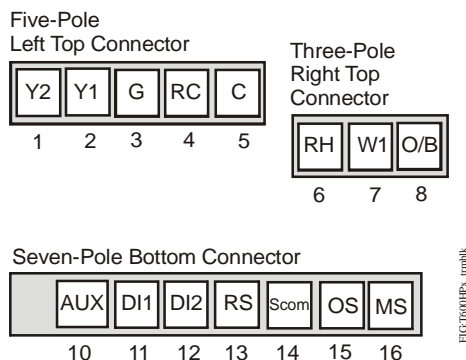

Figure 5: Terminal Blocks
- Strip the ends of each wire a 1/4 in. (6 mm) and connect them to the appropriate screw terminals as indicated in Figure 5.
Table 1: Terminal Identification (See Figure 5.)